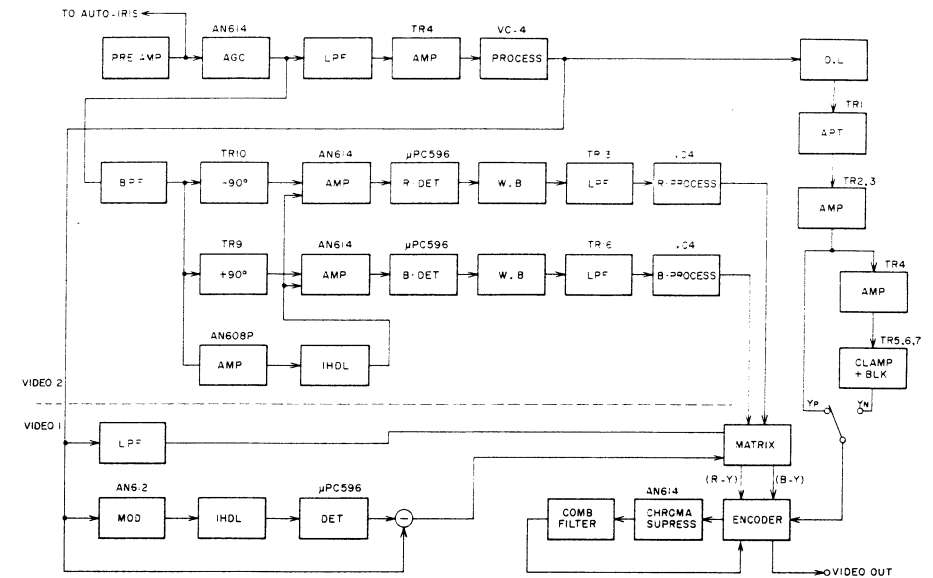
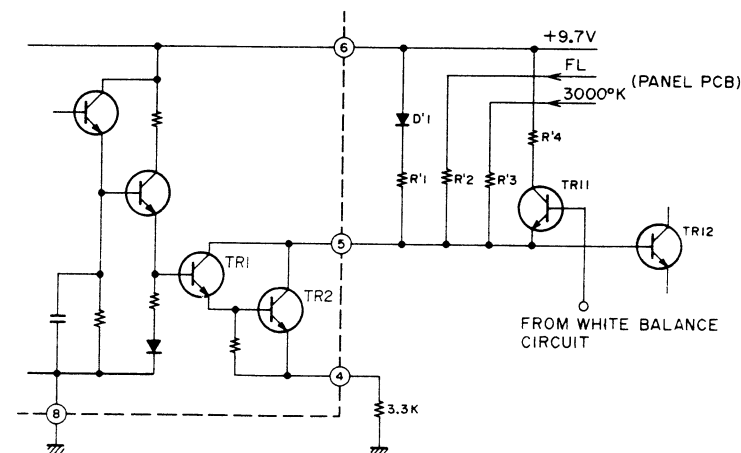

Fig. 18
Fig. 22
The video amp is made up of two P.C Boards: Video (1) and Video (2). Its block diagram is shown in Fig. 18. Output from the pre amp is clamped by TR1 and then supplied to pin ① to IC1 (AN614).
With the VC-X1, the white balance circuit is preceded by the detection circuit for 3.8 MHz-modulated waves (R and B) produced in the color separation circuit. (See Fig. 18). Fig. 22 shows the white balance circuit connections.
The Circuit shown in Fig. 22 is used to switch between TR11 (R-channel) and TR11' (B-channel). The color temperature at the switching point between 3000°K and 5500°K is around 3700°K. With photo-diodes, forward current increases as the amount of incoming light increases. Therefore, with light of 3000°K coming in, a voltage drop by  $R_x$  exceeds that by  $R_y$ . This causes potential of IC13's ⑥ to drop, which in turn causes IC13's ⑦ to go to "H" level and IC13's ① to go to "L" level. Since IC15's ② is "H" and IC15's ③ is "L", its output (IC15 ①) is "L". This causes TR20 to be turned off and TR21 to be turned on, which in turn turns TR11 on. As a result, the gain of R-channel decreases and white balance is obtained. With IC14, as the amount of incoming light increases, voltage drop by  $R_x$  and  $R_y$  increases, which in turn causes IC14's ② and ① to decrease and TR17/TR19 to be turned on. As a result, the dynamic range is widened. In the similar manner, if a considerable amount of light is existing, IC14's ① decreases, TR18 is turned on, IC14's ⑥ goes to "L", and IC14's ⑦ goes to "H". This causes  $V_{EX}$  to be applied from D1 to turn TR20 on, TR21 off and then TR11 on, thereby switching forcibly to 5500°K. (Note that this applies to AUTO mode only).